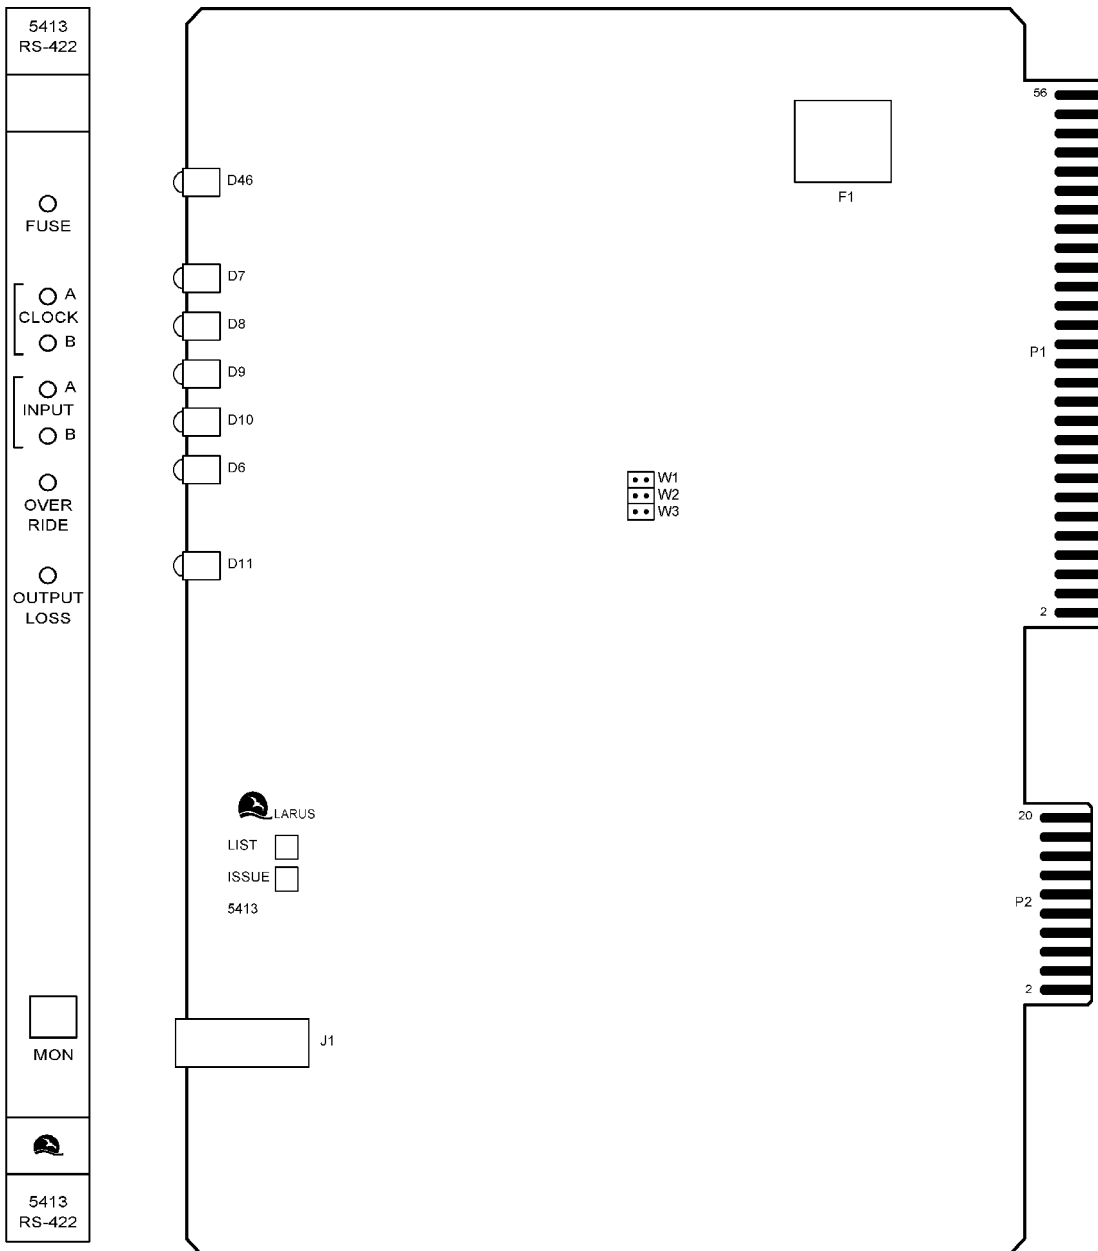

Figure 3-13. Model 5413 EIA RS-422 Output Driver Card with Front Panel
3.3121 For card layout and front panel of the Model 5413, refer to Figure 3-13.